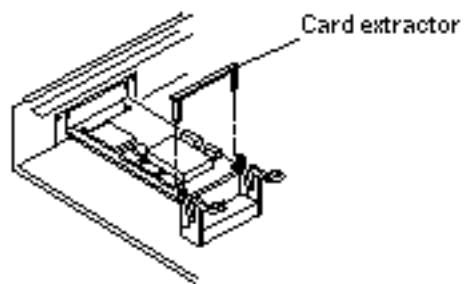

Figure 10-4 Installing or Removing the Card Extractor
- 9. Install the card extractor (shipped with the system) on the SBus card. Insert the legs of the extractor into the holes on either side of the connector. See Figure 10-4.**